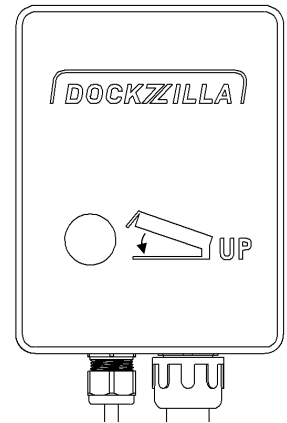

Figure 8: Control Box
2. Press the UP button until the leveler is fully raised and the lip is fully extended (Figure 8).